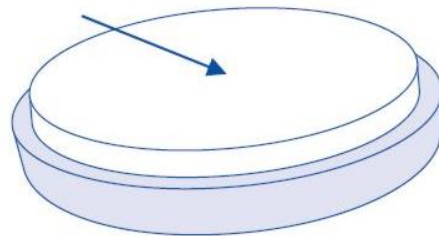

Fig.3
7. Locate lamp into position and secure with lamp retaining clip. Fit the protective glass (which incorporates the seal, see Fig.3) and secure the top cover with the screws.